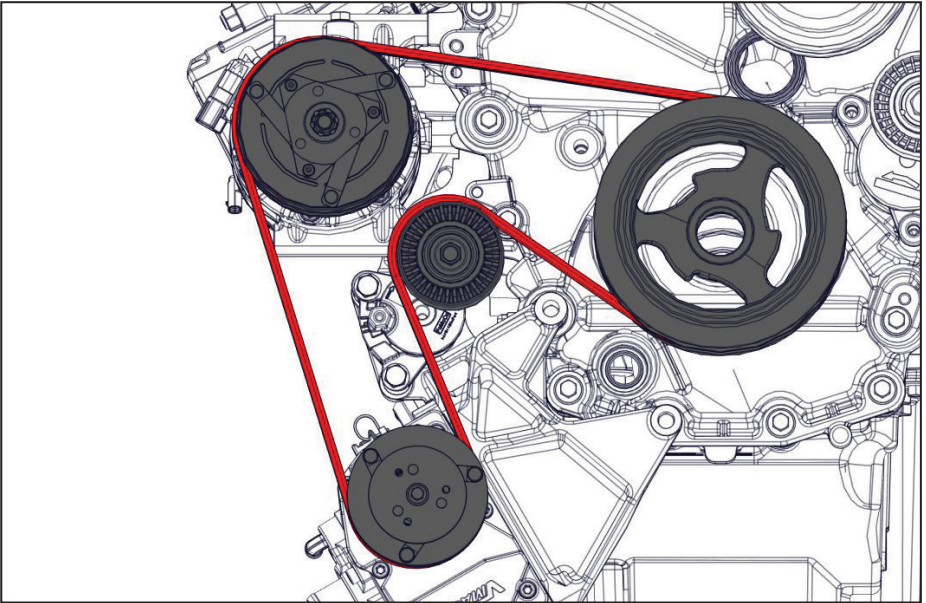

Figure 22 — Route VMAC belt
- Install and tension the supplied 4 rib VMAC compressor belt, ensuring that it is centered on the compressor clutch (Figure 22).